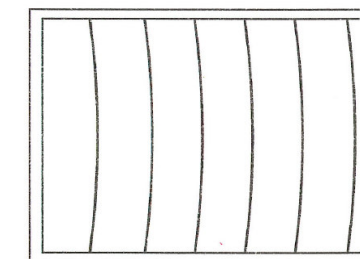
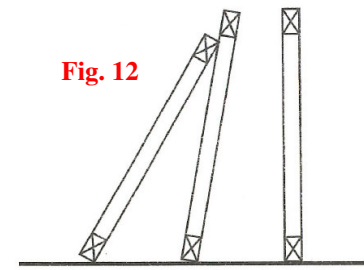

Fig. 11
Fig. 12
**COLLAPSE CAN EASILY OCCUR** without a bracing system that will prevent horizontal sway (Fig. 11) or roll over (Fig. 12) Once rolled over, trusses will not be strong enough to hold up their own weight.